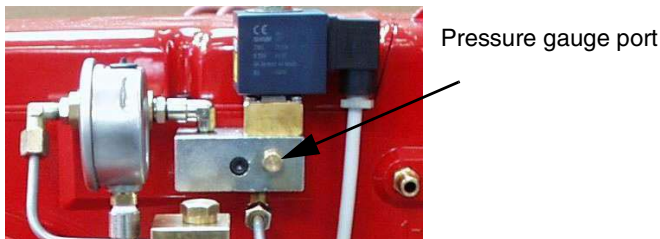
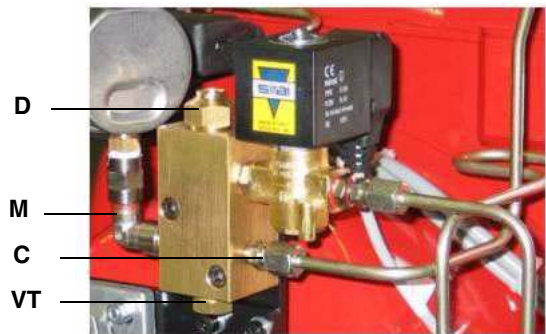

Fig. 22
Fig. 23 - Oil manual governor
If the nozzle provided is mod. MONARCH 10.5 GPH, when the return pressure is about 13.80bar, the flow rate will be 35.5kg/h (see example on Tab. 2). If the return pressure is 8.3bar (with the same nozzle), the flow rate value will be 20.7kg/h. The flow rate in the High-flame operation is related to the nozzle provided with close return. The flow rate in the Low-flame operation can be adjusted by means of the manual pressure regulator, taking care no to go under 8bar (see par. "Manual pressure regulator"). The burned flow rate depends on the pressure set on the return by means of the pressure regulator V screw (see Fig. 23).
- 6 the nozzle supply pressure is already factory-set and must not be changed. Only if necessary, adjust the supply pressure as follows (see related paragraph); insert a pressure gauge into the port shown on Fig. 22 and act on the pump adjusting screw **VR** (see Fig. 23) as to get the nozzle pressure at 20bar (Monarch or Fluidics nozzles - see page 25).
**Note:** After a certain operating period, the pressure can change because of some dirt on the needle's seal: remove the screw **VT** (see Fig. 23) and clean.